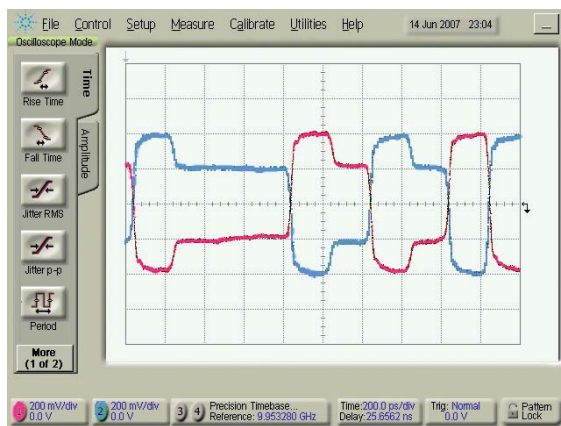

Figure 1: The normal and complement waveform of a de-emphasized signal and its data content
Figure 1 shows the waveform of a de-emphasized signal. Sometimes this is called pre-emphasis, as one could see it as boosting the first cycle after a transition. However, usually the signal's amplitude is reduced after a delay of one unit interval (UI), if the data content does not change, so the method is called de-emphasis.